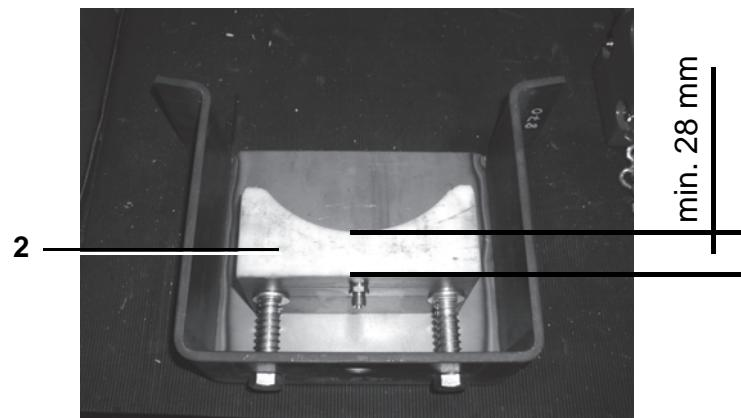

Fig. 35 Plastic sliding wear pad of slewing ring lubrication
- Check the plastic sliding wear pad (2) in Fig. 35 in the lubrication device (1) in Fig. 35 for wear every three months.
- Replace the plastic sliding wear pad (2) in Fig. 35 as soon as the wear limit is reached.
Before checking the plastic sliding wear pad (2) in Fig. 35:
| 1 | Remove the lubrication device (1) in Fig. 35. |
| 2 | Check the plastic sliding wear pad (2) in Fig. 35 for wear (min. 28 mm). |